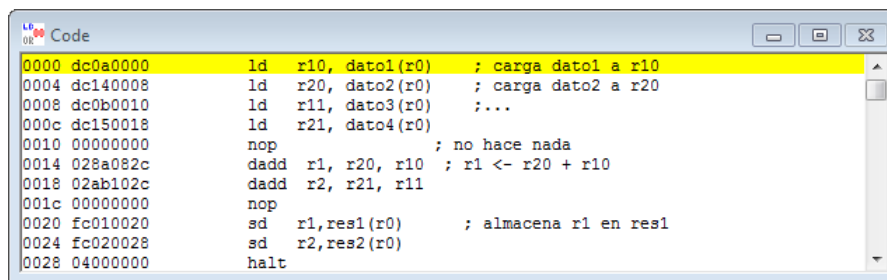

Figure 2.2: WinMips64 code window
- **Code** (figure 2.2): Shows the listing of the program loaded in the simulator; one instruction per line. The first column shows the offset from the base address used to load the code in the memory of the computer; the second column shows the machine code of the instruction, in hexadecimal; the third column shows the instruction mnemonic.